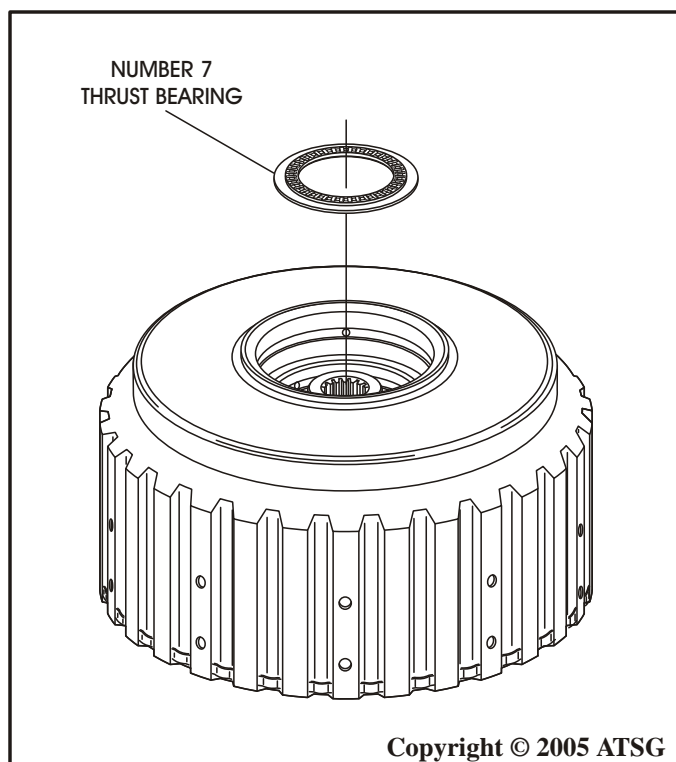

Figure 92
29. Turn the overdrive/reverse clutch housing over as shown in Figure 92.
30. Install the number 7 thrust bearing in direction shown in Figure 92, and retain with a small of Trans-Jel®.